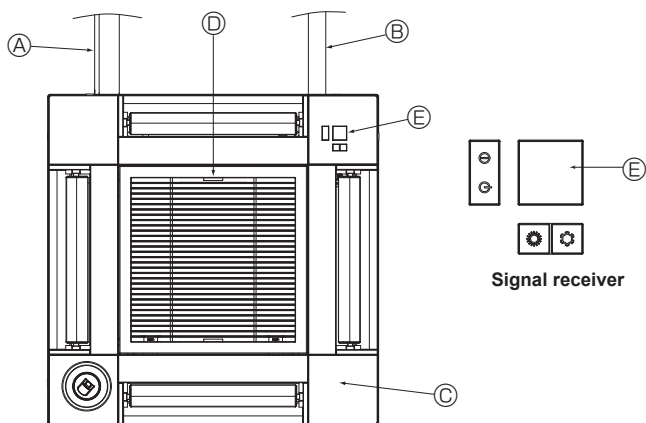

Fig. 10-17
- ① Turn off the main power switch.
- ② Injuries and or an electrical shock may occur while the fan of the unit is rotating. Disconnect the connector for the vane motor of the vent that you want to lock. (While pressing the button, remove the connector in the direction indicated by the arrow as shown in the diagram.) After removing the connector, insulate it with tape.
10.5. Installing the intake grille (Fig. 10-17)
- ④ Refrigerant piping of the main unit
- ⑤ Drain piping of the main unit
- ③ Corner panel
- ④ Position of the levers on the intake grille when sent from the factory.
- ⑤ Receiver